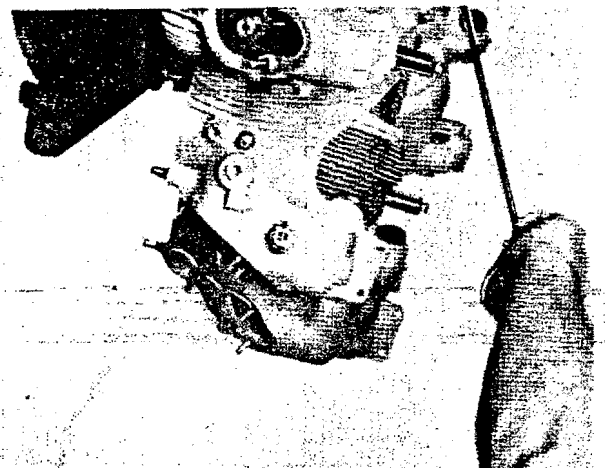
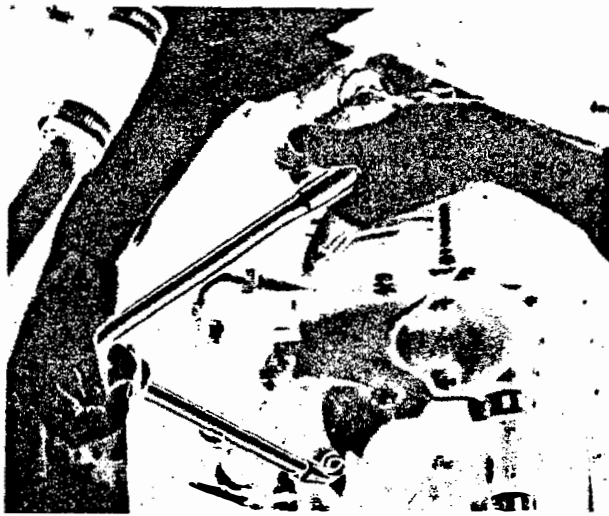

Figure 7-58. Removing Palnuts
Figure 7-59. Removing Holddown Nuts
a. Turn the crankshaft until the piston of the cylinder to be removed is at the top of its compression stroke. Remove the palnuts [Figure 7-58], then remove the cylinder flange nuts, using PWA-2006 or PWA-2399 Wrench and PWA-2398 or PWA-2411 Handle [Figure 7-59], leaving one nut on until just prior to the removal of the cylinder.